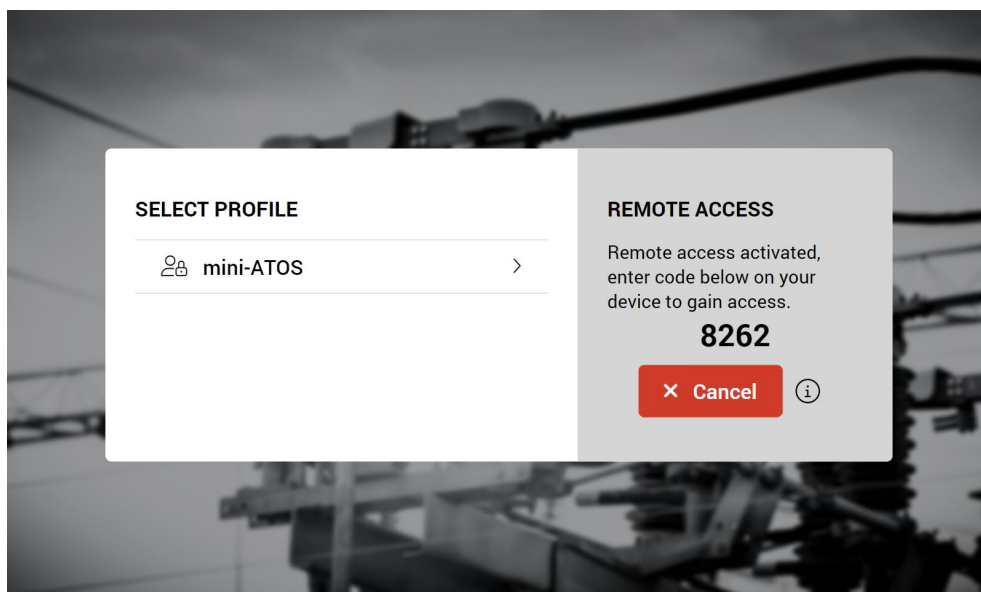

Figure 109: Remote access activated with an auto-generated key on the mini-ATOS display
- 4- Activate remote access on the select profile page. If you didn't input the access key manually in the settings, you will see then the auto-generated access key (Figure 109)